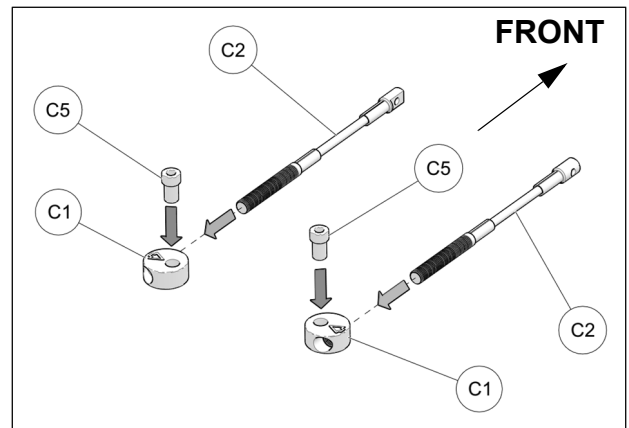

Fig. 20
- Assemble steering limiter cables (C2), aluminum disks (C1) and step spacers (C5) together as shown on Fig. 20